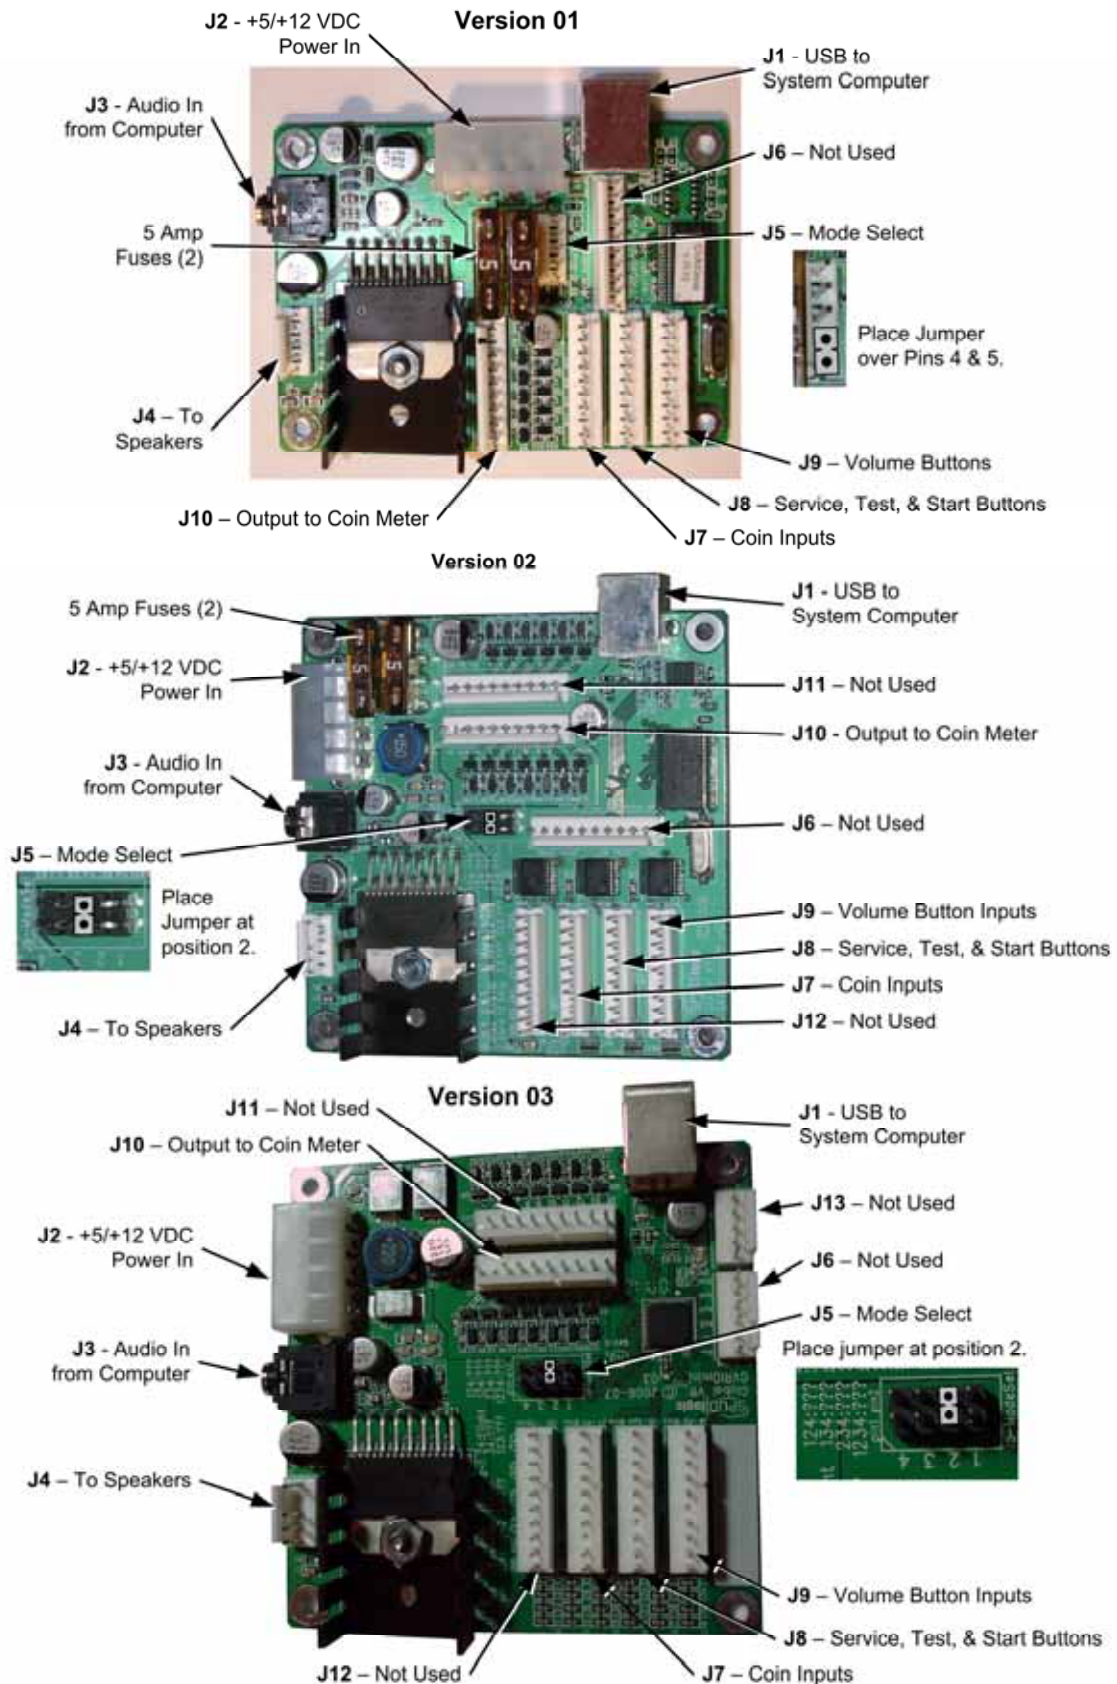

Figure 21. GVRI/O Mini PCB (Various Versions)
The GVRI/O Mini PCB relays all signals between the system computer and the guns, and also contains the Audio Amp. Each connector on the GVRI/O Mini PCB is keyed to fit only to the correct harness connector. The location of components varies on different board versions. See Figure 21 on page 25 to locate the connectors and other components on the PCB. The two 5 Amp fuses on some versions are for the coin meter power wire only. See Figure 27 on page 43 for detailed wiring information.
1. To replace a PCB, disconnect all connectors and then remove the four (4) screws that secure the PCB to the mounting feet.
2. **Important:** Place a jumper at Mode Select (**J5**) of the new PCB, as shown in Figure 21.